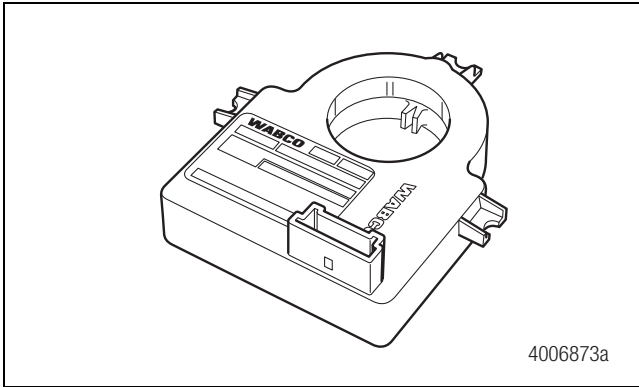

Figure 4.14
6. The SAS is attached by three screws to the steering column with the center tab located in the grooved steering column shaft. Figure 4.14.